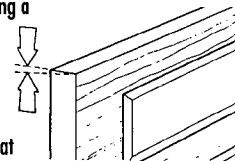

Fig. 5
5. Doors should be slightly beveled on the latch edge. This will improve the fit when the door is closed. Using a wood plane or fine toothed saw, trim the latch edge of the door to a 3" or 4" bevel (Fig. 5). This bevel will result in the door being slightly narrower on the side of the door that rests against the stop or jamb. Beveling allows the door to operate freely while maintaining a clearance between the jamb and latch edge of 1/8".